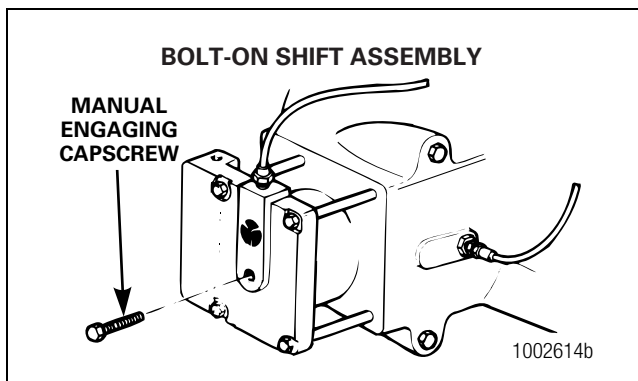

Figure 11.7
- C. Install the manual engaging capscrew into the threaded hole in the center of the cylinder. Figure 11.7.